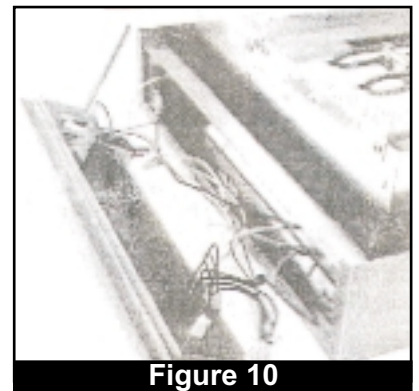

Figure 10
3. Leaving wires attached, gently place front panel face down on a clean work space. (Fig. 10)